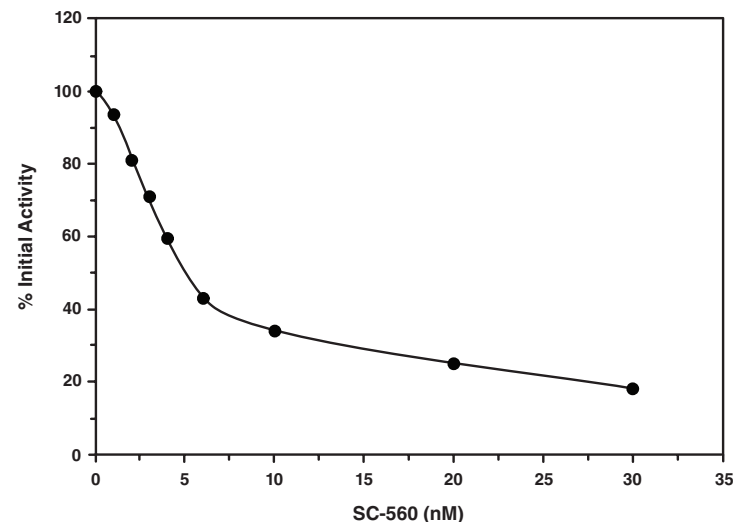

Figure 3. Inhibition of ovine COX-1 by SC-560 ($IC_{50} = 5 \text{ nM}$)
The vial contains 6.6 μ M SC-560 in DMSO. SC-560 is a potent inhibitor of COX-1.⁶ SC-560 can be used as a control for screening COX-1 inhibitors. Dilute 15 μ l of SC-560 with 985 μ l of DMSO Assay Reagent (Item No. 700001). Assaying 10 μ l with COX-1 will yield approximately 50% inhibition (see Figure 3 on page 13).
4. Graph either the Percent Inhibition or Percent Initial Activity as a function of the inhibitor concentration to determine the IC_{50} value (concentration at which there was 50% inhibition). Examples of COX-1 and COX-2 inhibition by SC-560 and DuP-697, respectively are shown in Figures 3 and 4 (see pages 13 and 14, respectively).